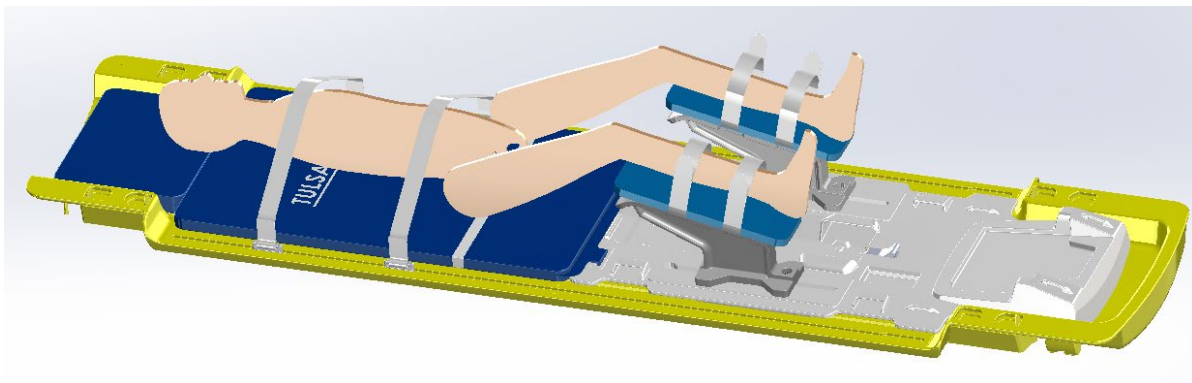

Figure 24. Securing the abdomen and arm straps.
1. Fasten one abdomen-arm strap tightly over the pelvis to minimize anterior-posterior breathing motion. Wrap the sheet over the abdomen and place the patient's hands on top. Fasten a second abdomen-arm strap over the arms to help fit the patient into the MRI bore (Figure 24, some configurations not exactly as shown).